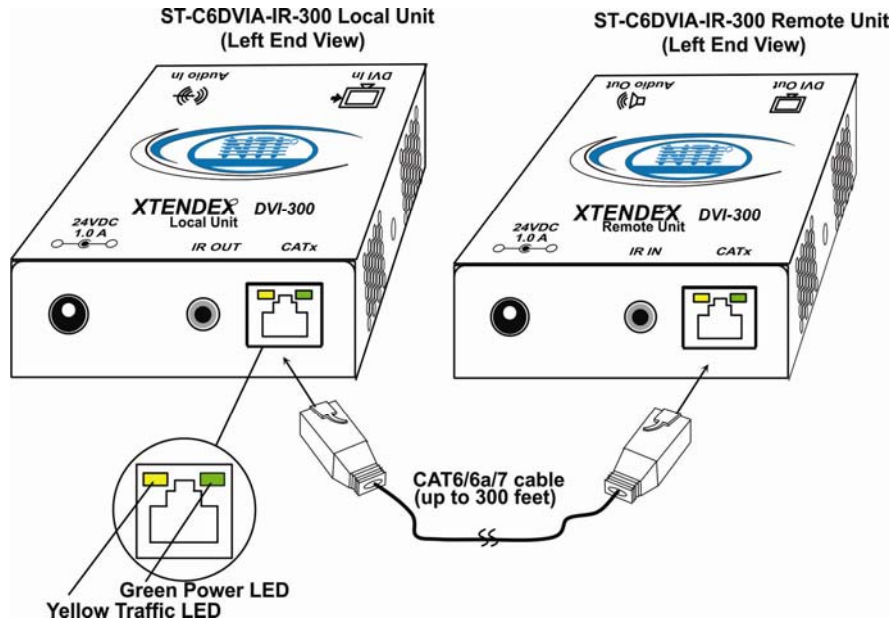

Figure 3- Connect CATx cable
Connect the CATx cable between the “CATx” ports on the Local and Remote Unit. (See Figure 3.) When properly inserted the cable ends should snap into place.
2. Connect an AC adapter power connector to the 24VDC port on the Remote Unit or the Local Unit. Plug the AC adapter into a power outlet. The green LED on the RJ45 connector of both the Remote and Local Units should illuminate, indicating that a proper power connection has been made to them. (See Figure 3) The yellow LED on both the Local and Remote Units should illuminate indicating there is communication between them.